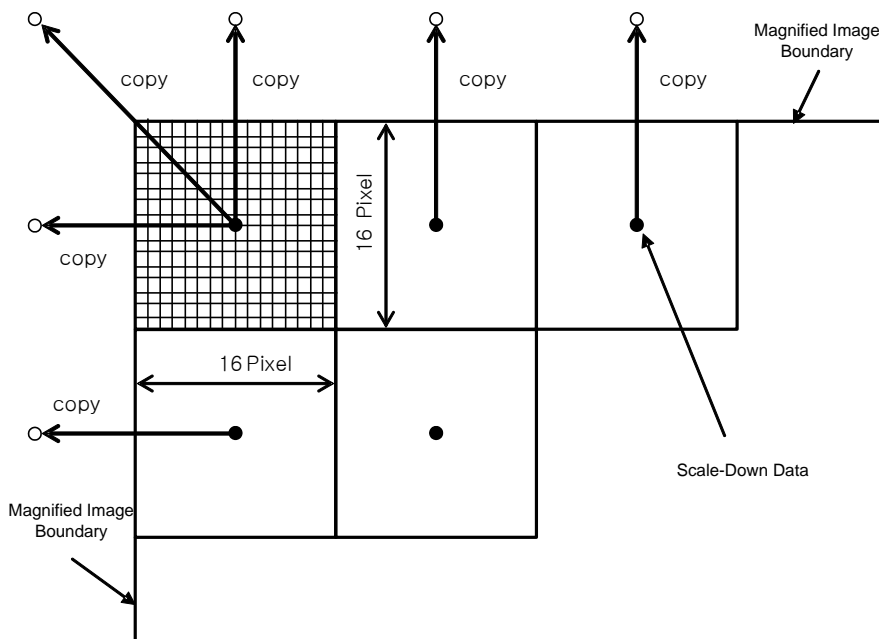

Figure 9.24 Bilinear Interpolated Magnification
4. Execute the **Ffc Save** parameter to save the generated Flat Field data in the non-volatile memory. When the Flat Field data are applied for correction, the Flat Field data which were scaled down will be enlarged via Bilinear Interpolation as shown in the Figure 9.24.